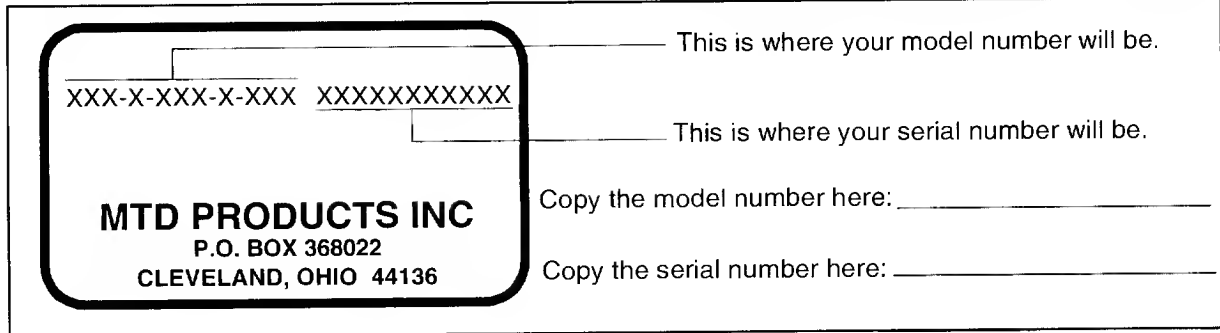

Figure 1
- Every walk behind has a model plate. You can locate it by standing behind the unit in the operating position and looking down at the rear of the deck. An example of the model plate is shown in Figure 1.